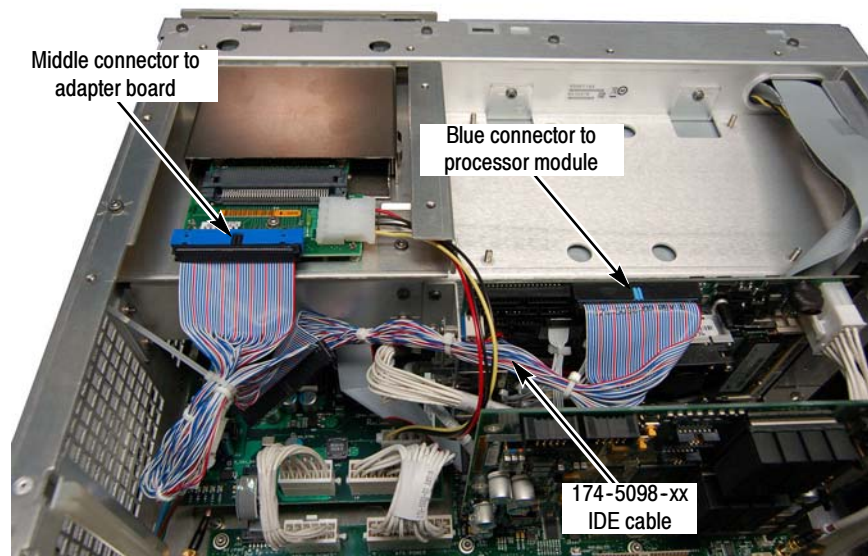

Figure 11: Connecting the IDE cable
8. Connect the middle connector of the IDE cable to connector P1 on the IDE Adapter board. See Figure 11.